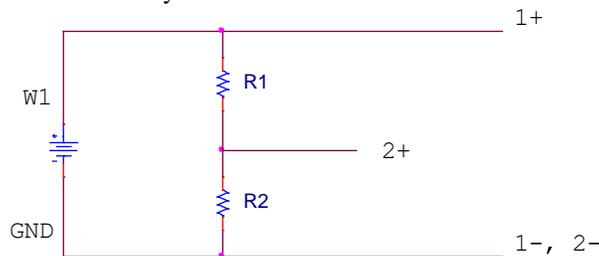

Figure A-6.
- Use the function generator, W1, of the Analog Discovery to output a DC signal of 1V. Build the circuit in **Figure A-6**. Use $R_1 = 1k\Omega$ and $R_2 = 1k\Omega$. Connect the Channel 1 and Channel 2 inputs as shown in the figure. Using the voltmeter, measure the voltage across R_1+R_2 (combined) using Channel 1 and the voltage across R_2 using Channel 2. Record your measurements.